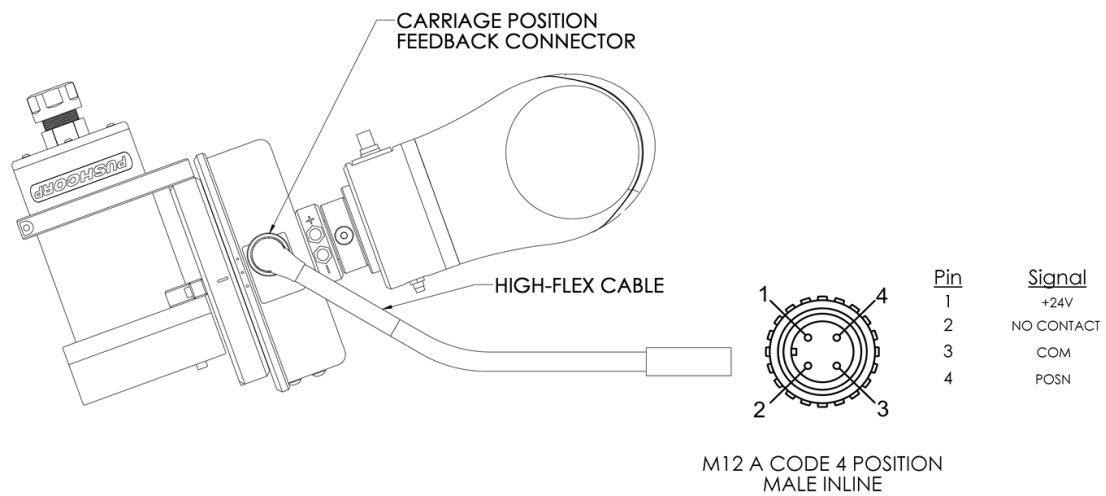

Figure 8: Electrical Connections
1. Attach the High-Flex Cable to the Carriage Position Feedback Connector as shown in Figure 8.